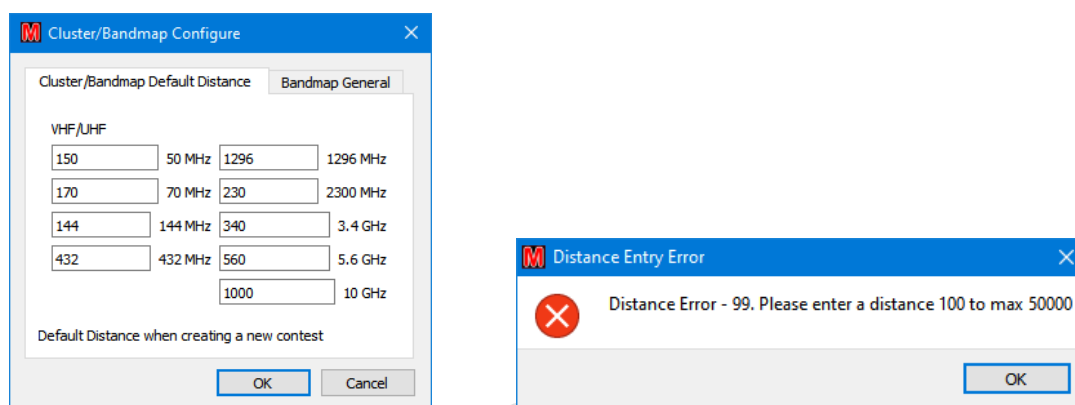

Figure 120 – Default distances for filters
The defaults for the distance filter are established using “**Cluster/Bandmap Filter Configuration**” under the Tools menu as shown in Figure 120 (1)¹²⁴. The distance must be in the range 100 to 50000 (!) otherwise an error message is produced Figure 120 (2).